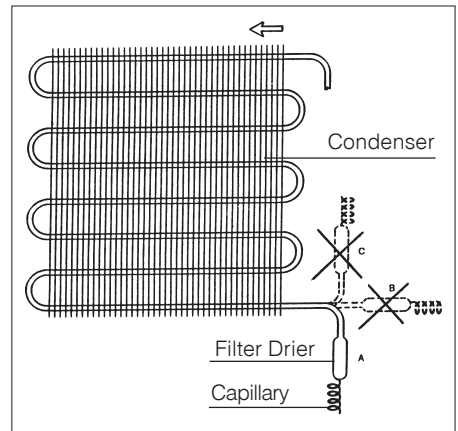

Figure 29 - Filter Drier
- The filter dryer must be installed in the vertical position with the capillary at the bottom (see figure 29).